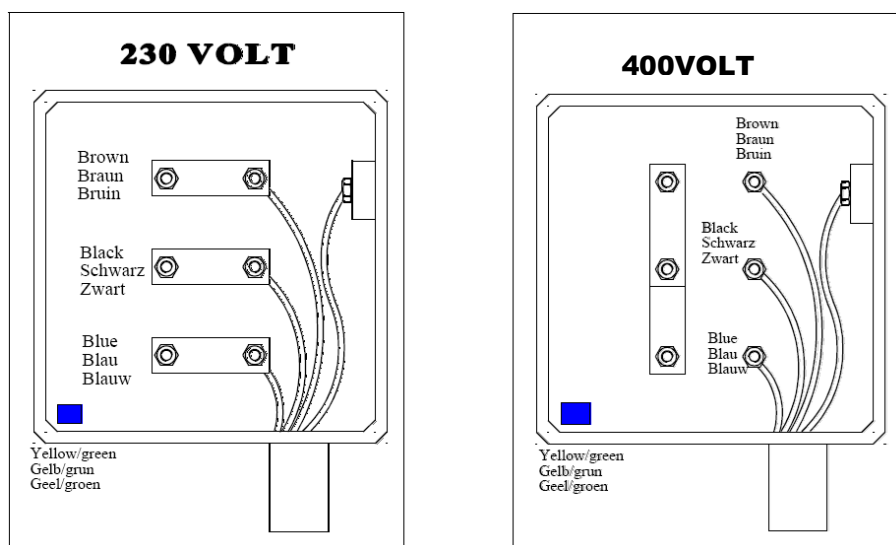

Figure 5.4-1: Wiring connections in the connection compartment of the electrical motor
- Open the connection compartment of the electrical motor and install the strips as shown in Figure 5.4-1.
Connect the supply cable wires according to the correct diagram in Figure 5.4-1. Install a plug that matches your electrical outlet on the end of the cable. After connection, check the direction of rotation of the grinding belt. The top surface must move toward the cross support.